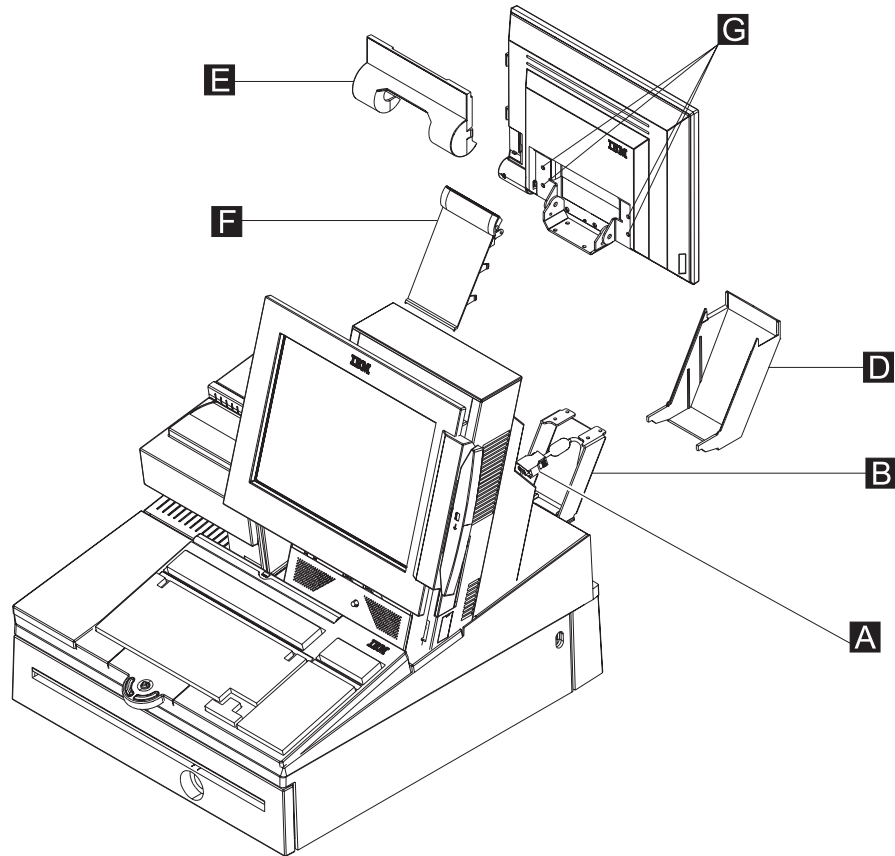

Figure 71. Removing the 4820 SurePoint Solution display cable and covers
- a. Refer to Figure 71. Remove the 4820 filler panels in the following order (**E** , **F** , **D**).